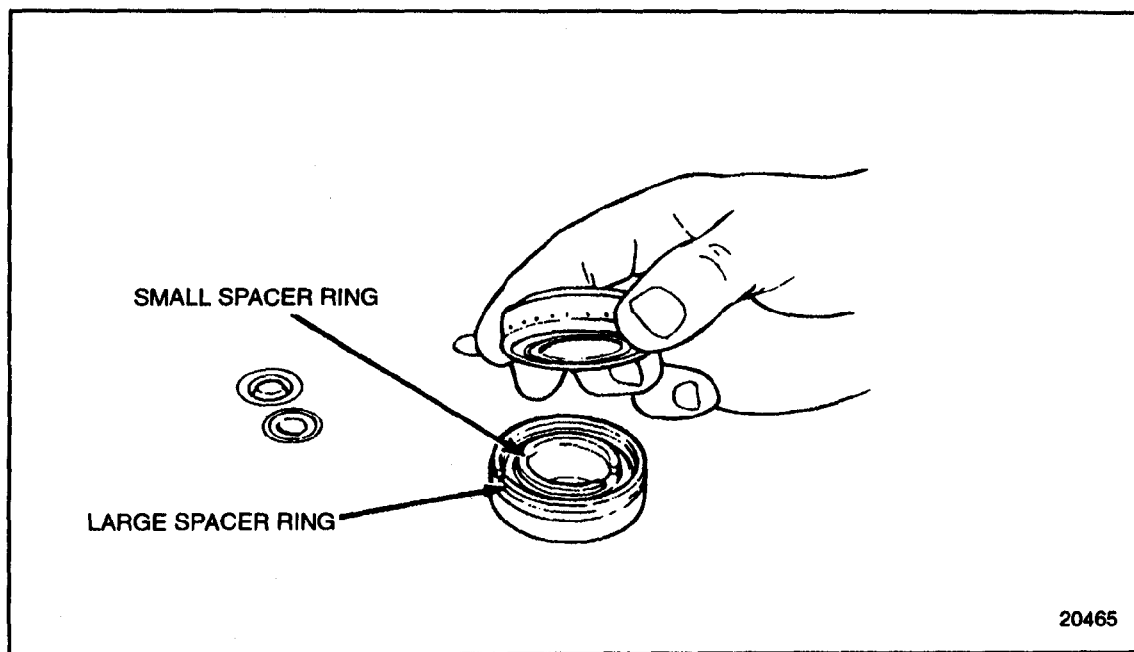

Figure 4-15 Bearing Pack Assembly (GCM)
- [a] Place the small spacer ring on the inner bearing race. See Figure 4-15.